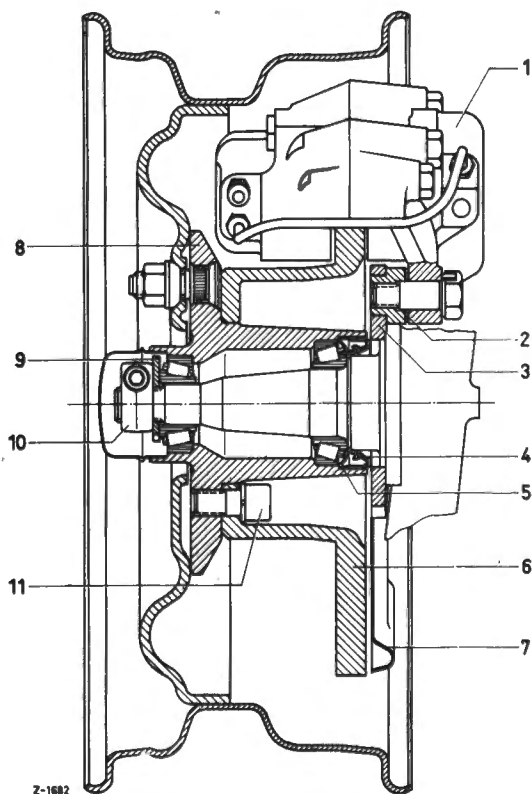

Fig. 33-5/4a
13. If on the 1st version of the front wheel bearings the contact surface for the seal on the spacer ring (6) is worn, replace the spacer ring (6). To do this heat the ring by means of a welding torch to about 80° C and remove it from its seat on the wheel spindle. Shrink on a new heated spacer ring paying attention to the assembly instructions in Job No. 33-0. The contact surface of the spacer ring should only be reconditioned in an emergency. In the case of the 2nd version front wheel bearings remachine the contact surface for the seal on the wheel spindle, if necessary (for dimensions see Job No. 33-0). This can only be done after the steering knuckle has been removed (see Job No. 33-6). In this case the reserve thread pattern need not be applied.
14. Check the washer which is ground on both sides (2) and, if necessary, regrind or replace it (Fig. 33-5/2).